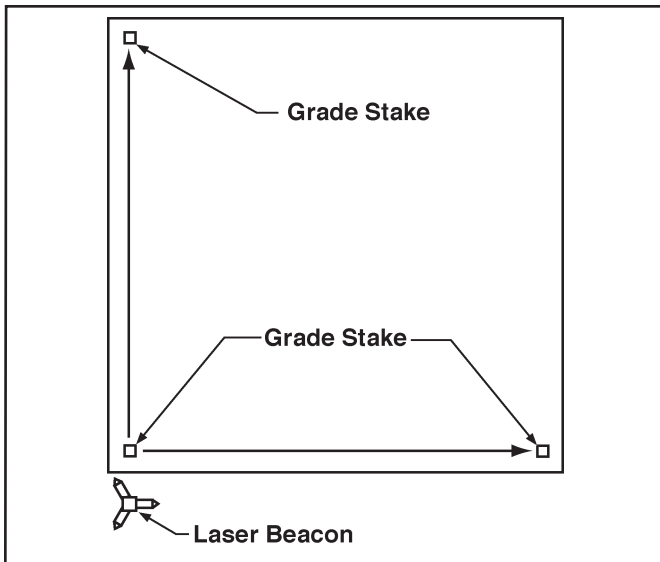

Figure 7. Method Two: Align Rotating Laser with Grade Stakes
2. Place the Rotating Laser a few feet (meters) behind the first grade stake and in line with one of the far grade stakes (It is not critical to align the Rotating Laser exactly) (Refer to Figure 7).